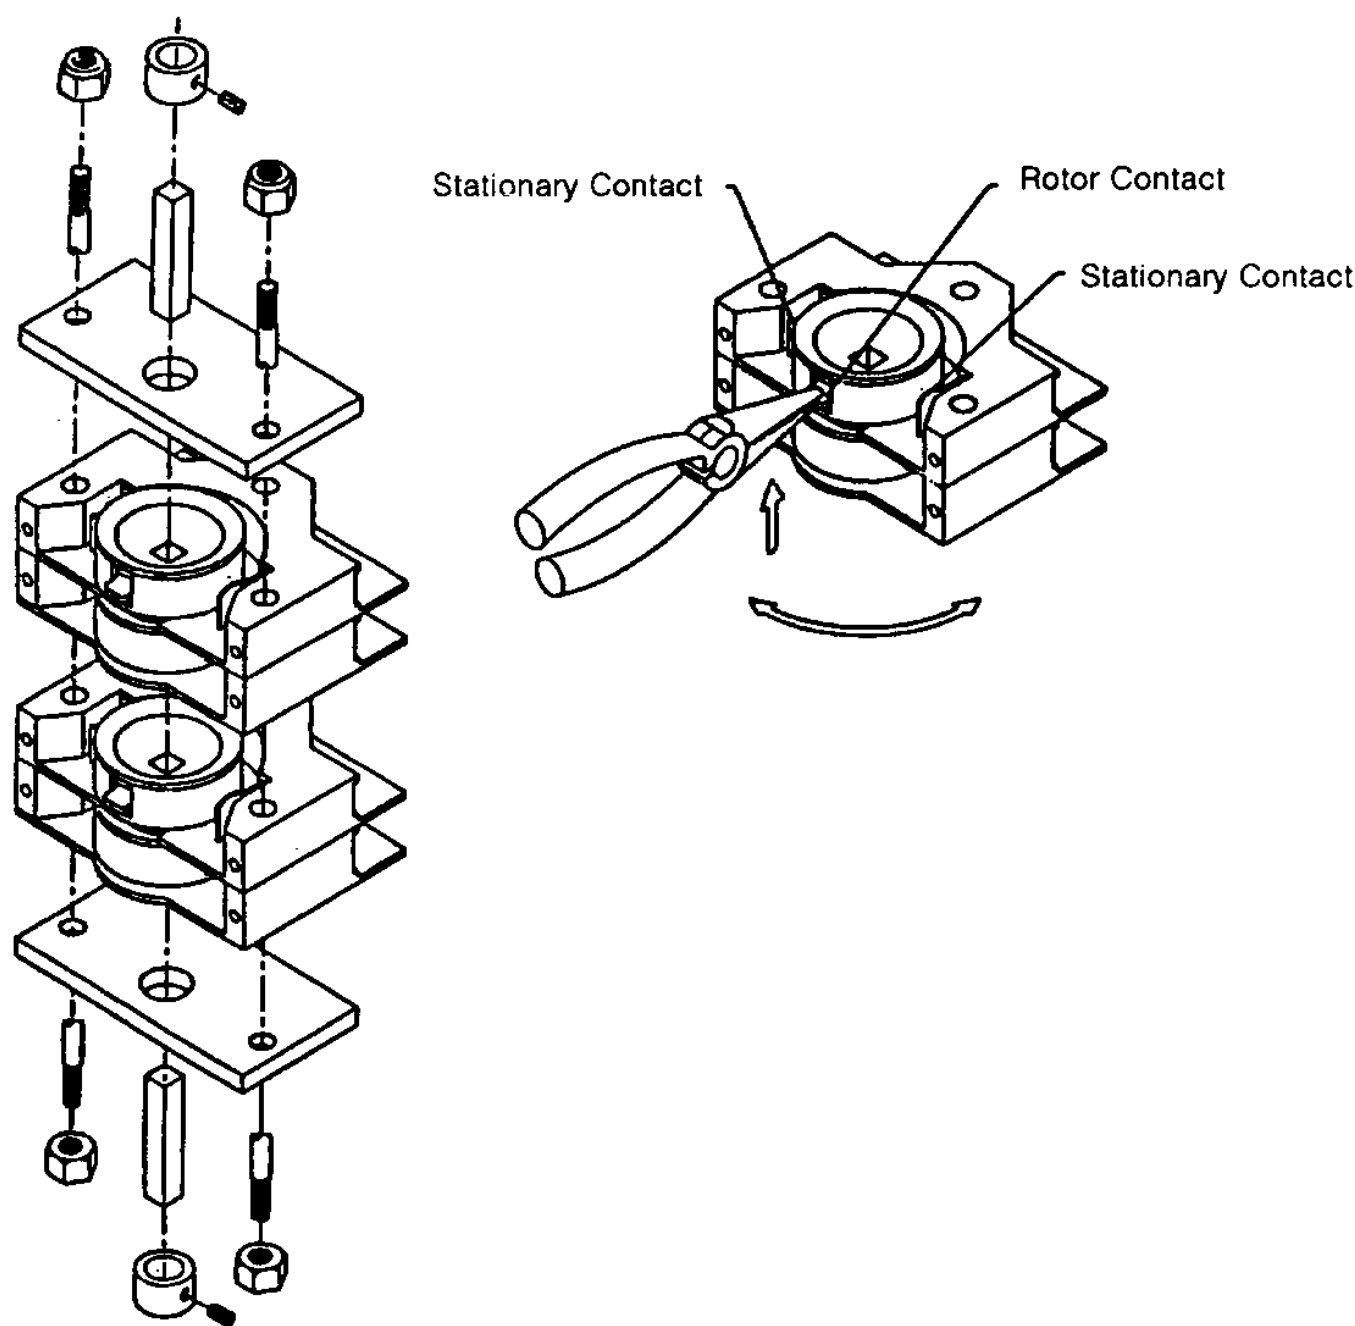

Figure 49b -- Auxillary Switch -- Exploded View
4. Rotate rotor contact to "contact" position, see Figure 49b.